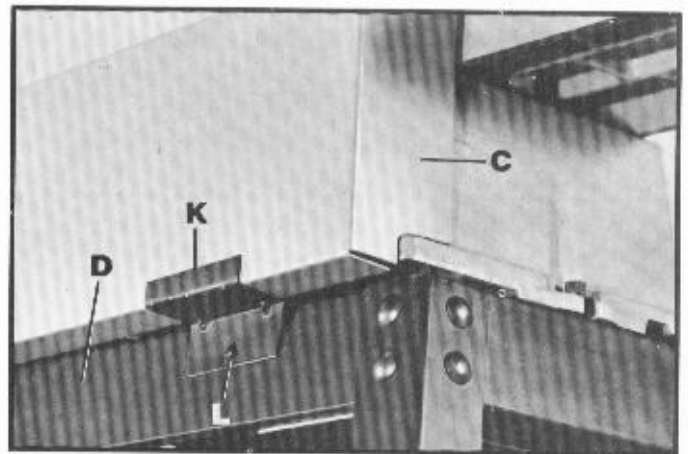

Fig. 7
Assemble the motor pulley guard (K) Fig. 7, as shown so it fits around the outside of the belt and pulley guard (C). Fasten the guard to the side stand bracket (D), with screw (L), washer and hex nut.